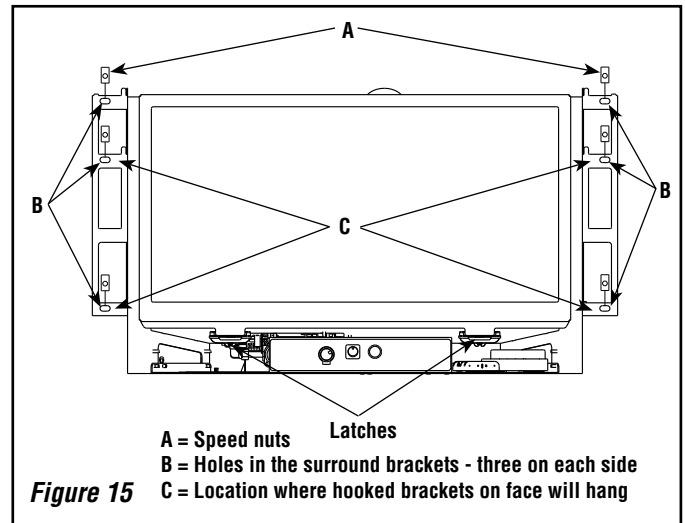

Figure 15
1. Remove the speed nuts (*A in Figure 15*) from the parts bag and install (with the flat surface forward) on the six holes in the surround brackets - three on each side of the insert (*B in Figure 15*). A flat bladed screwdriver may help in installing the nuts.
The faces come with hooked brackets. To install the face, hang the hooked brackets on the surround brackets (See C in *Figure 15*).